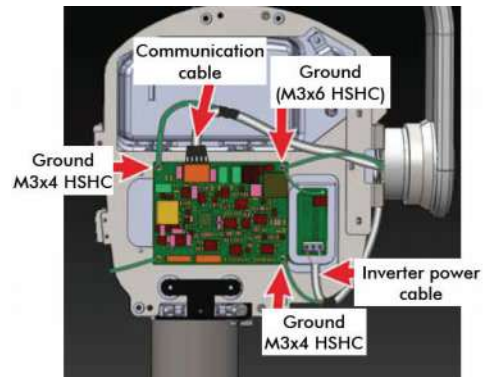

Figure 71
- Route the INV power cable as shown in the Figure 71 and connect it to the sealing board 3 pin connector (Pin 1 & 3). Hold the connector firmly while tightening the terminal screws.
- Using a 2.5mm allen key connect the GND ring terminal of the INV cable to the nearest control board fixing screw(M3x4 Socket head cap screw) as shown in the Figure 71 .
- Route the communication cable and connect it to the J4 connector of the control board as shown in Figure 71 .
- Using a 2.5mm allen key connect the GND ring terminal of the communication cable to the nearest control board fixing screw(M3x4 Socket head cap screw) as shown in the Figure 71 .
- Fix the scissor-arm grounding cable on the control board along with sealing board grounding cable with M3X6 Hex. Socket Head cap screw using 2.5mm Allen key as shown in Figure 71 .